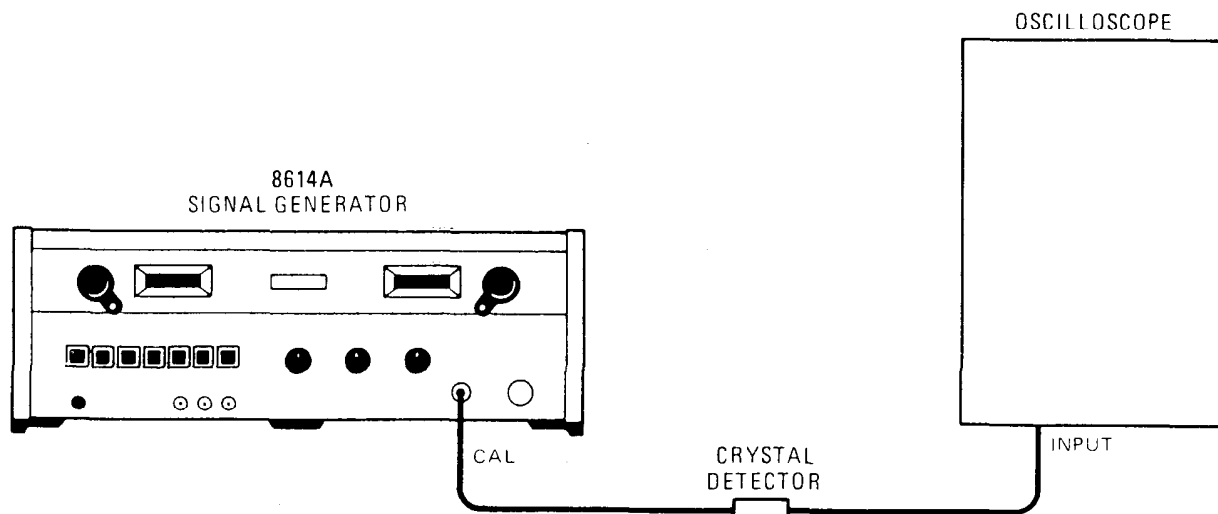

Figure 5-3. Internal Square-Wave Check
- a. Connect instruments as shown in Figure 5-3 (see Note, paragraph 5-14, step a).